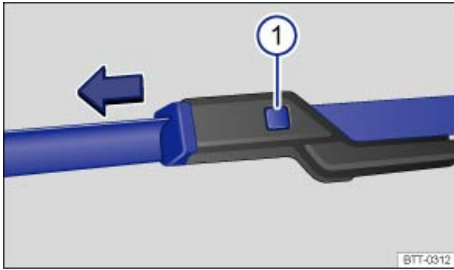

Fig. 162 Changing the windshield wiper blades.
- Press and hold the release button ⇒ fig. 162 \(1\).